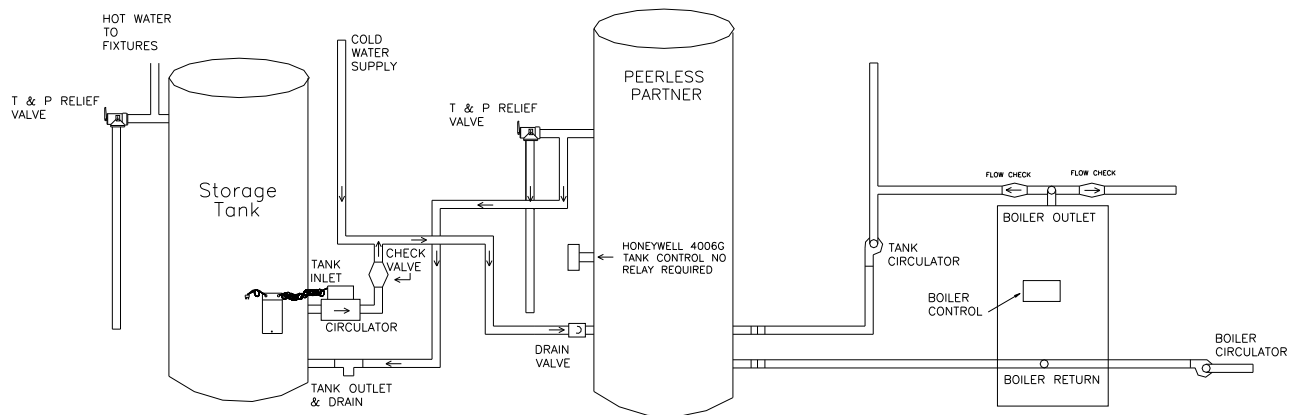

Figure 6: Unfired Storage Tank
5. **Peerless Partner with unfired storage tank.** See Figure 6.